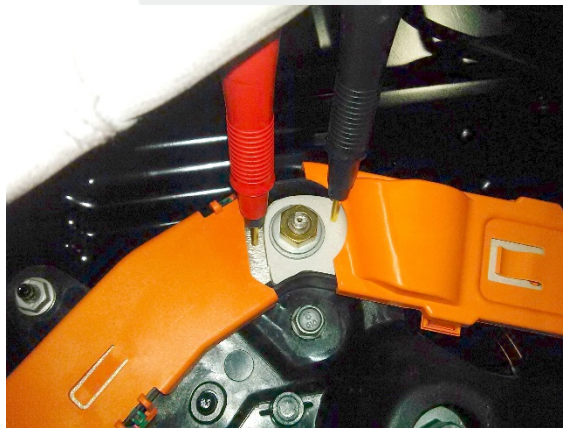

Figure 3
5. Use the Hioki resistance meter to measure the resistance at the HV joint between the positive busbars (Figure 3).